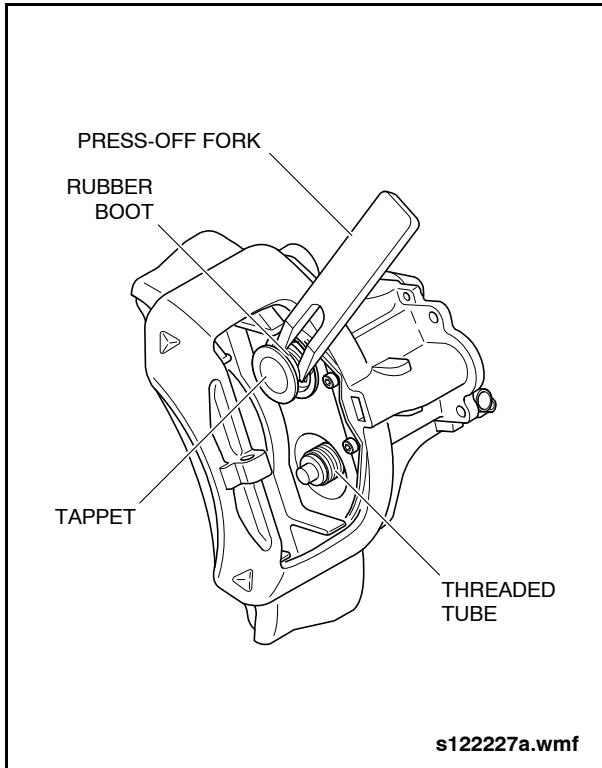

Fig. 1-66: Removing Tappets
3. Use a sharp knife to cut the rubber boot on the tappet. Insert the press-off fork tool (Item 81 from special tools list) between the tappet and the end of the threaded tube with the flat side of the forks against the threaded tube. See "Fig. 1-66: Removing Tappets" on page 70.